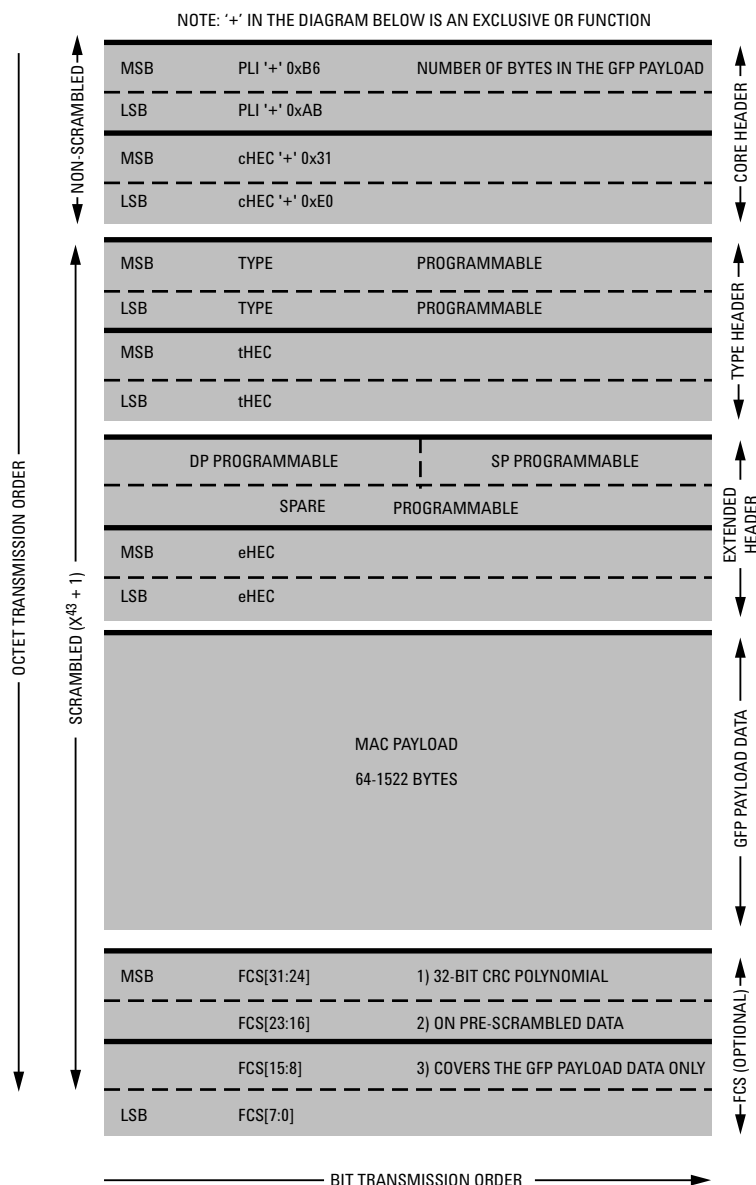

Figure 11. The GFP frame
- Performs XOR with values as shown in Figure 11.
- Generates and sends cHEC and XOR (Figure 11).